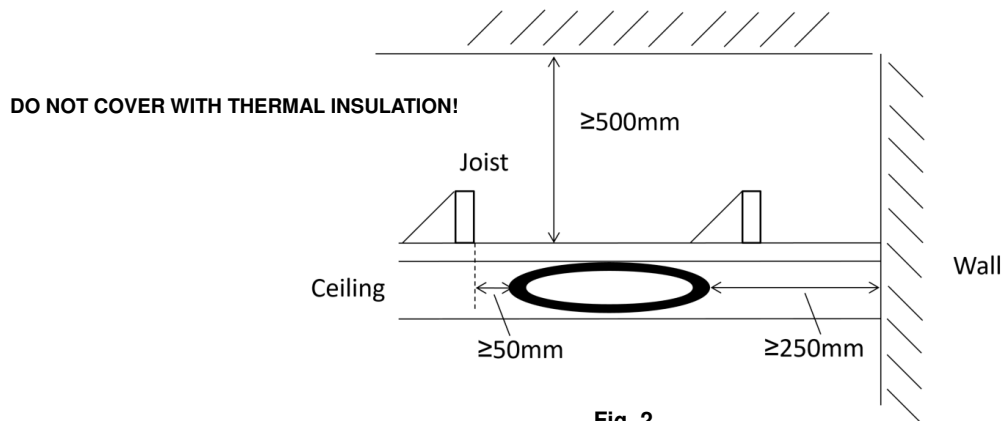

Fig. 2
- Ensure all the clearance values to the structural building element are maintained according to the clearance diagram in Figure 2.
Before installation, please plan and check the ceiling space to make sure that there are no obstructions such as ceiling joists and there is sufficient height clearance for the motor housing. Refer to the figure 2 for the clearance requirement.